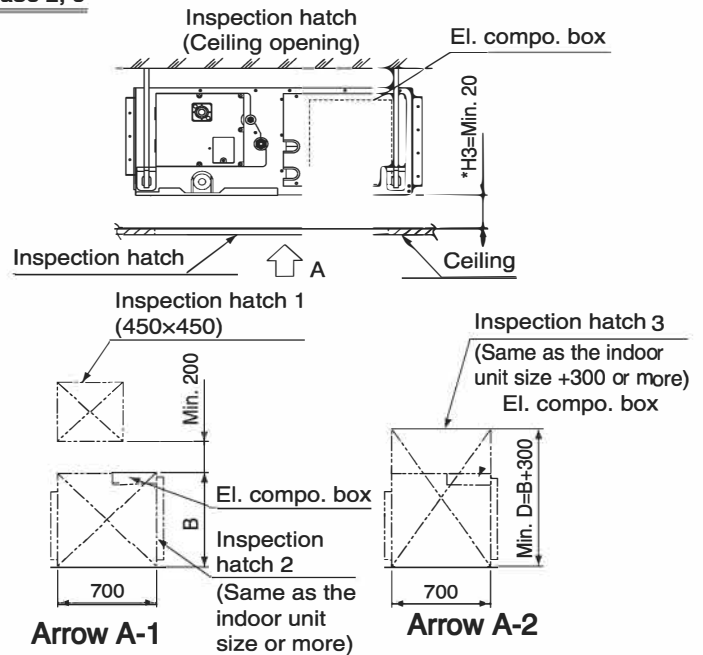

Fig. 2-3
2. Inspection hatch 1 (450 × 450) on the control box side and inspection hatch 2 on the bottom of the product. (Fig. 2-3, arrow A-1)
3. Inspection hatch 3 on the bottom of the product and on the bottom side of the control box, see direction view A-2 (Refer Fig. 2-3)